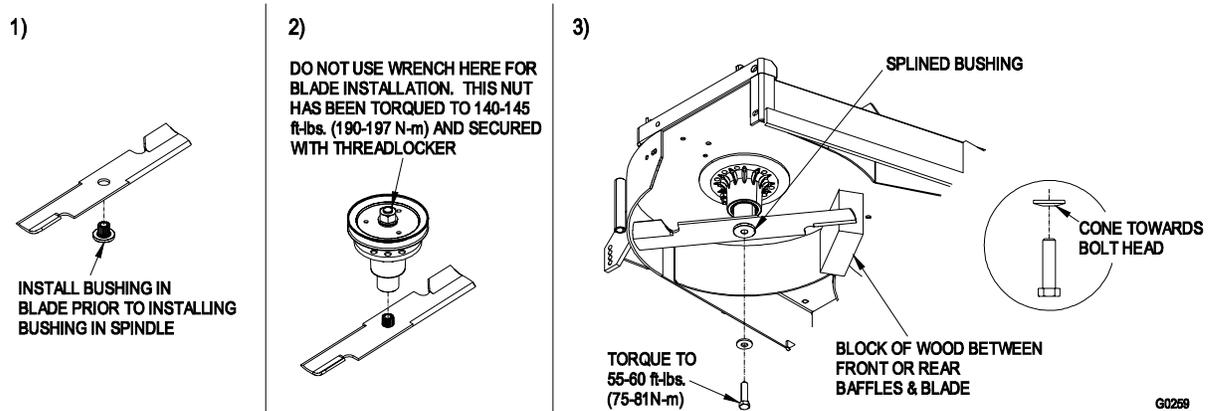

FIGURE 6
- d) Re-install the blades (if they were removed) in the following order (See Figure 6):